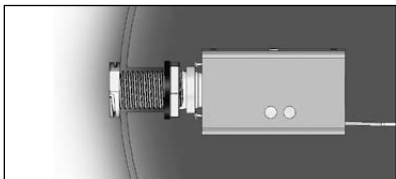

FIGURE 4
5. **IMPORTANT:** The outer nut must screw down flush with the battery tube. If the battery tube is significantly below or above the surface of the outer nut, remove the Load 'N Lock from the guitar and adjust the inner nut accordingly (refer to fig. 4).